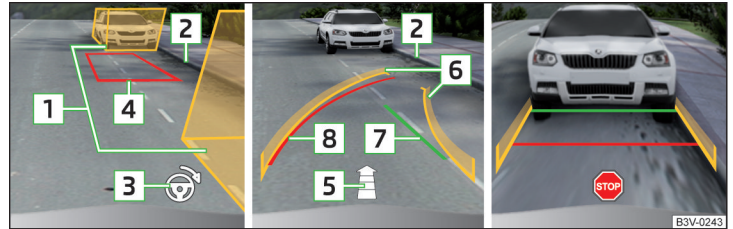

Fig. 284 Screen display
- Stop the vehicle stop so that there are no obstructions in the gap between the auxiliary boxes **1** » Fig. 284 and the rear box does not extend over the side of the parking space **2** (e.g. kerb).